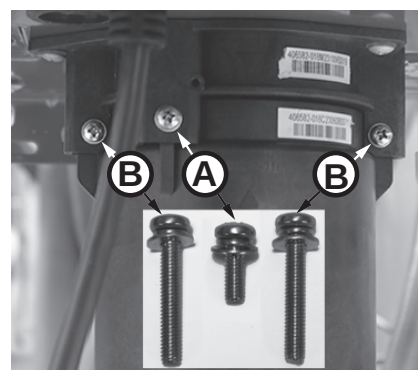

Figure 200 - Identify cartridge screws
5 Locate the three (3) screws securing the X3®/Bypass cartridge as shown in Figure 200. Remove the **(A)** M4-12mm screw and the two **(B)** M4-25mm screws from cartridge. Place screws aside in a safe place for reinstallation.